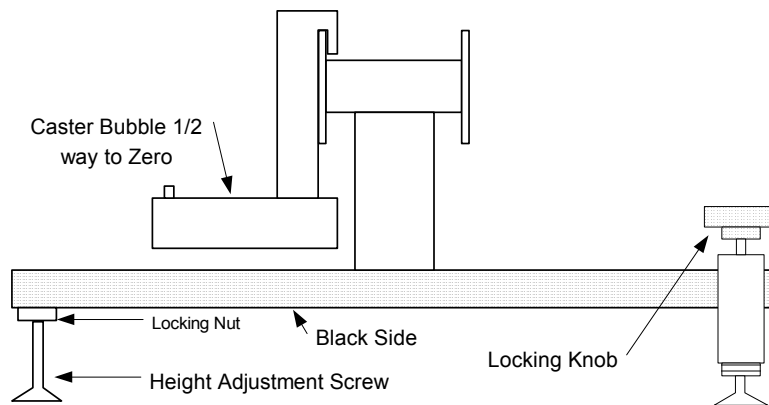

Figure 11
4. Loosen the nut to adjust the height. Adjust the screw until the caster bubble is one half of the way back to zero. Lock the nut until tight. Do not over tighten.(Fig. 11)